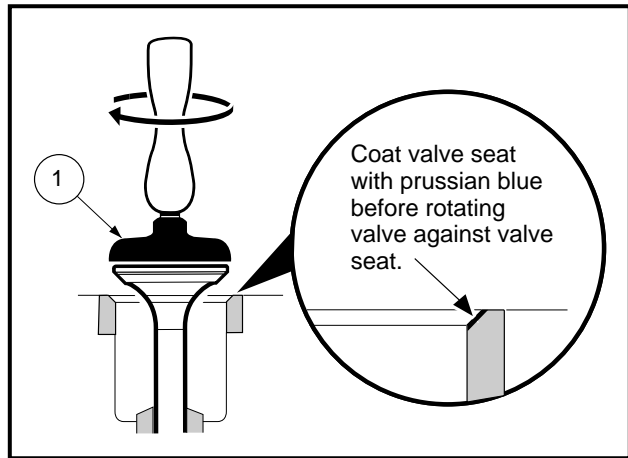

Figure 13-23 Rotate Valve against Valve Seat
4. Rotate the valve against the seat with a lapping tool (1) (**Figure 13-23, Page 13-14**).